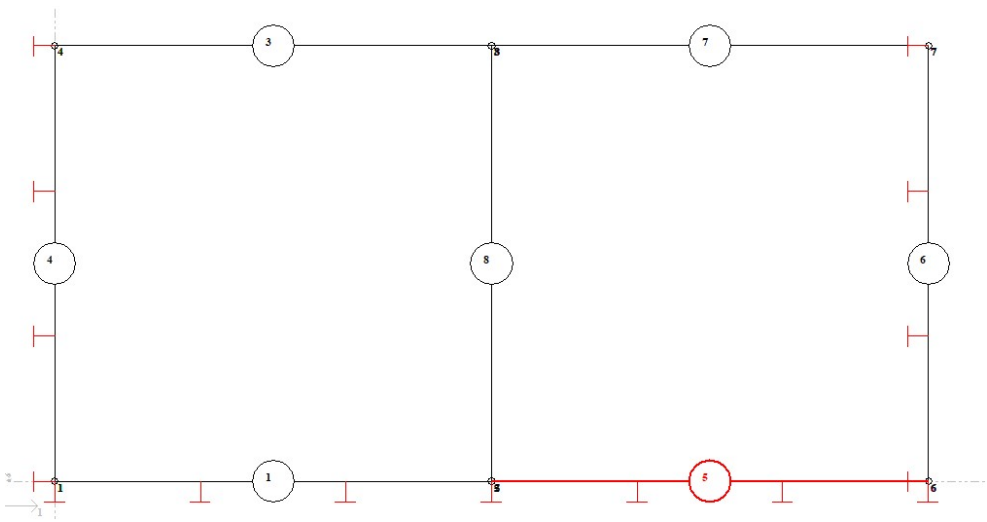

Figure 6.3 Geometry in Gmail.
8. Now, set the boundary condition. Click **New** → *select Type 5*. Click the left one then click OK, select **DOF FIXED** with 1 (x direction), and click OK. Do the same for the right boundary by fixing its **DOF 1** (x direction). Do the same for the bottom but fix **DOF** with 2 (Y direction), and click OK. Finally, **Quit** . **File** → **Save Data** → **Yes** . The result is shown in Fig. 6.3.